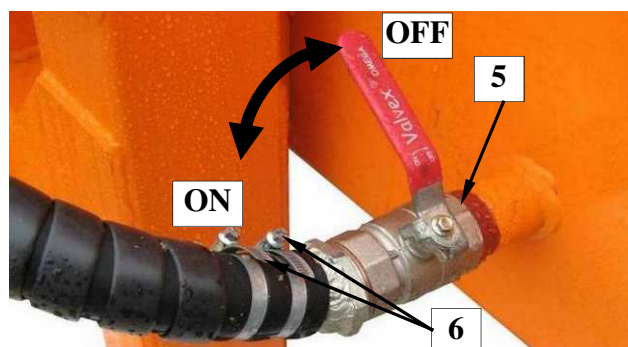

Fig. 55. Shut-off valve placed on tank
Tightness of joint connections at valve (5) should be controlled at least once a day. Leaks should be removed by tightening nuts and /or band clips (6) (Fig. 55).